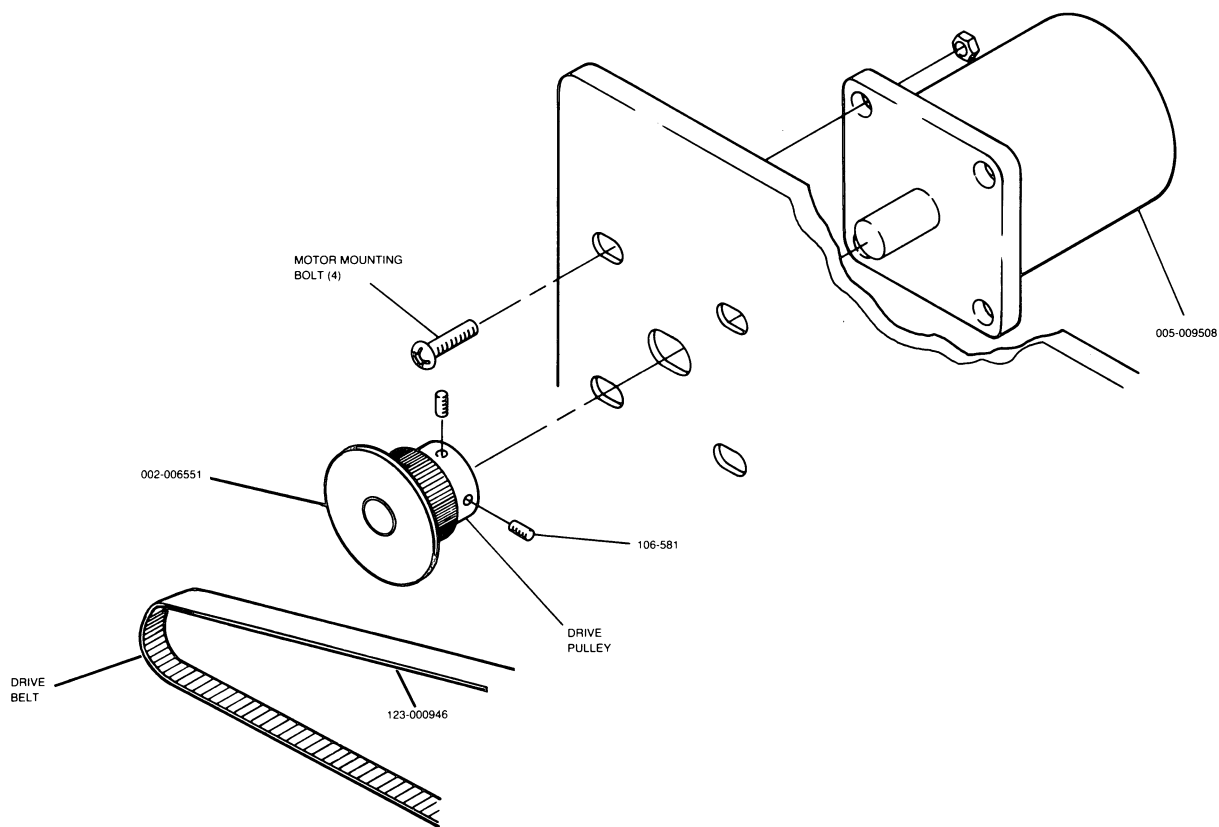

Figure 5.19 Paper Feed Motor Replacement
1. Loosen four motor mounting bolts and slide motor forward (see Figure 5.19).